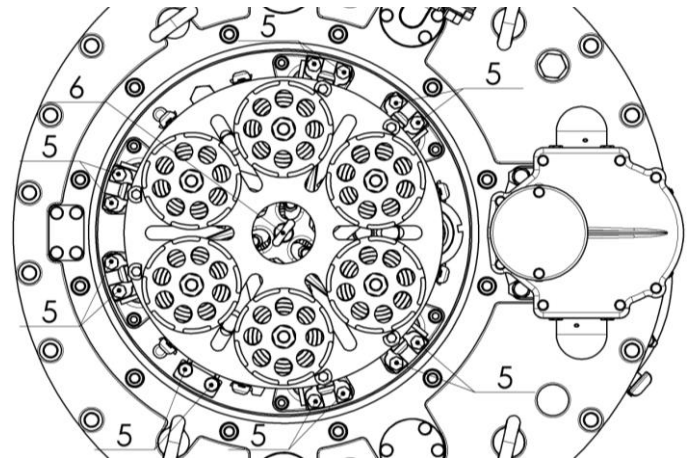

Fig. 3
- d) Unscrew the 14 special (Pos.5, Fig. 3).